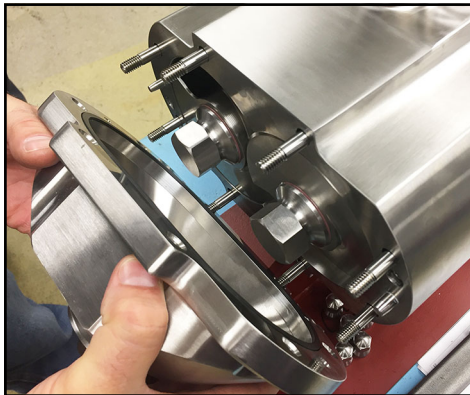

Figure 131 - Install pump cover
- All sizes except 220-UTS: Align the cover holes with the lower cover studs, then slide the cover onto the pump as shown in Figure 131.